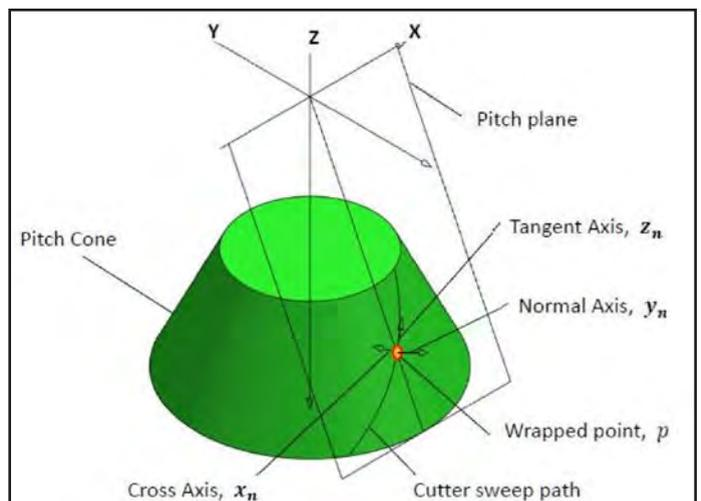

Figure 6 Definition of a wrapped point's local coordinate system.
**Normal axis**— $y_n$ . The normal vector is defined as a vector radiating perpendicularly from the surface of the right cone at the wrapped point location (Fig. 6). The normal vector at wrap point  $p = (p_x, p_y, p_z)$  can be calculated by the following equation: